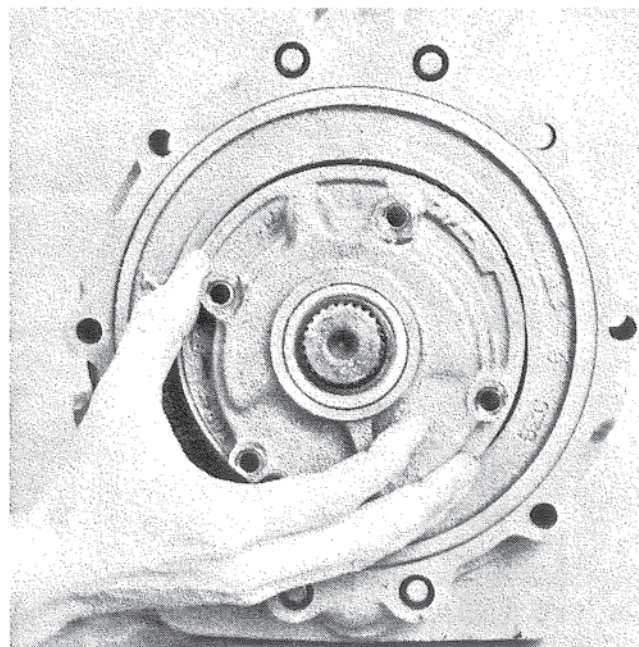

Figure 83. Installing Pump.
6. With the pump driven gear properly installed in the front pump housing, assemble the housing and pump driven gear squarely over the protruding input shaft and assembly tool. A slight rotation of the pump housing and pump driven gear will allow engagement of pump gear teeth. Figure 83.